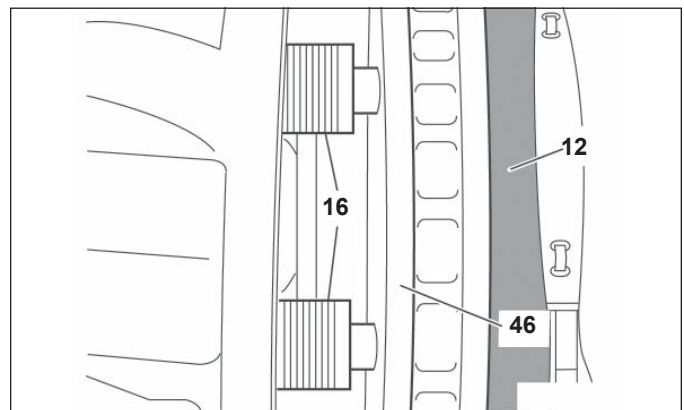

Figure 50 – Use of a New Brake Pad as a Spacer
5.5.10 Inspect the threaded tubes (16). See Figures 50 and 51. Extend the tubes, but by less than 1.75 in. (44.5 mm), by turning the shear adapter (61) clockwise. Inspect the threads for rust, corrosion, or damage etc. If there is evidence of damage to the threads, significant rust, or corrosion, the caliper/carrier assembly must be replaced.
If the technician is working with the caliper on the vehicle, the technician may place a new brake pad (12) into the outboard gap to help avoid the loss of thread engagement of the threaded tubes. See Figure 50.